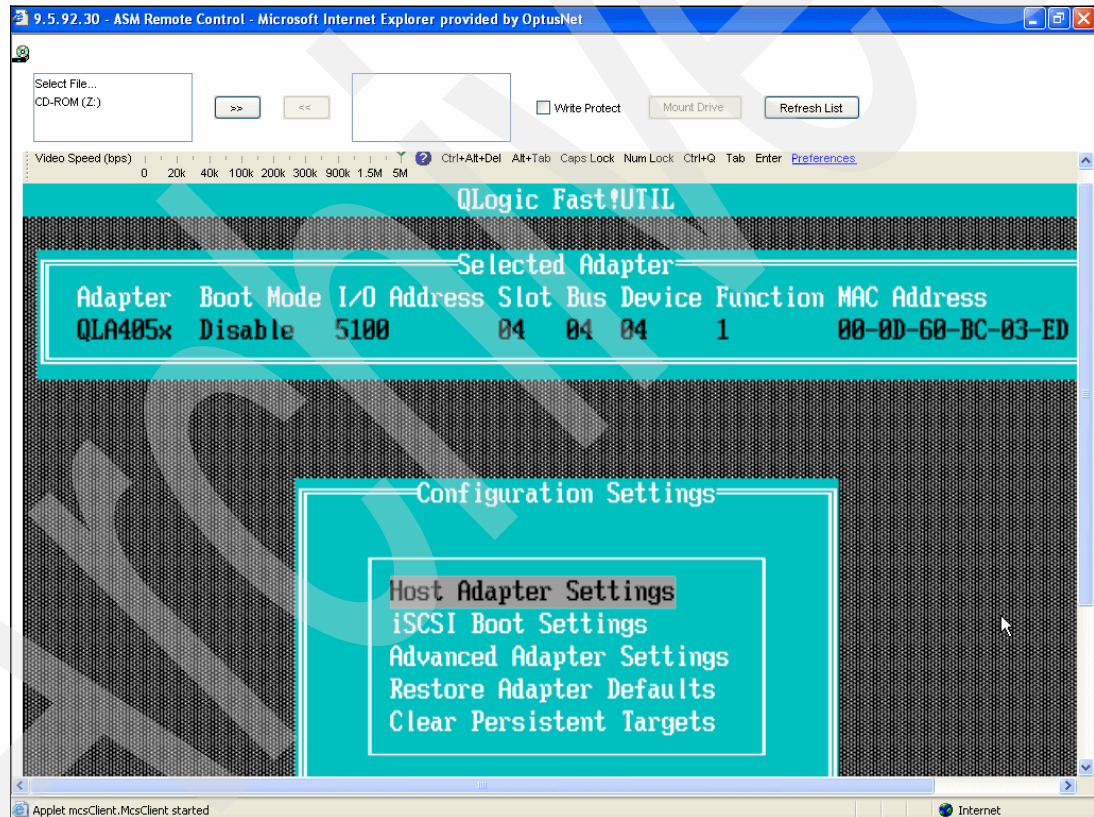

Figure 9-60 The Configuration Settings menu
- The Configuration Settings menu shown in Figure 9-60 appears. You navigate your way around this utility by using the Up and Down arrow keys to select a menu option, then press Enter. To back up, press the Escape key.